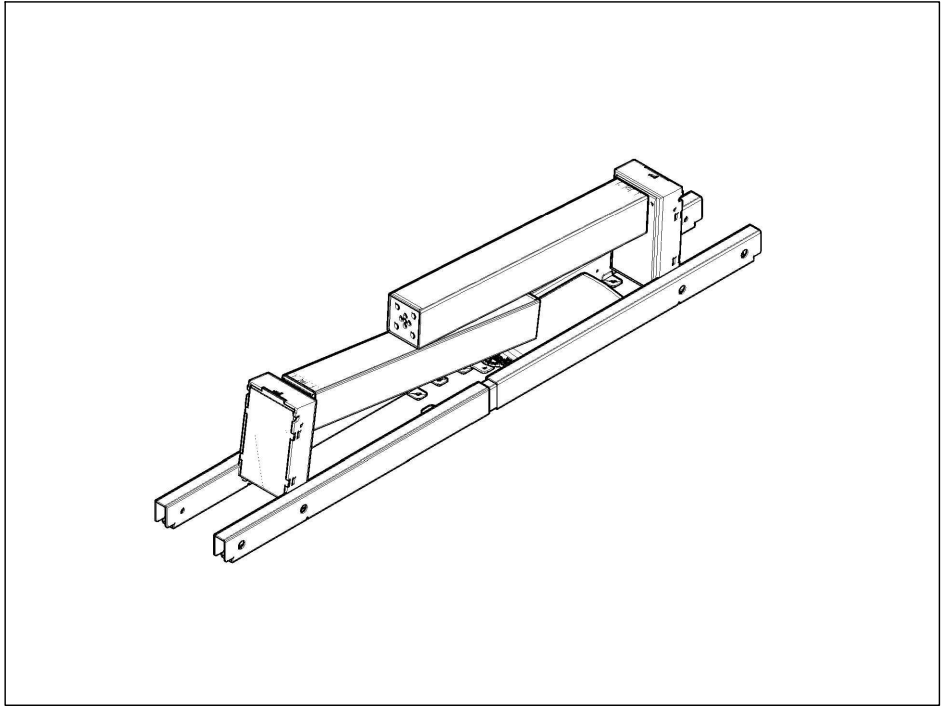

FIGURE 1
1. Take the main frame out of the box and place it on a clean, solid surface or floor (Figure 1). For worksurface, 46 inches in length, go to step 2 and for worksurface 48 to 72 inches in length, proceed to step 6.